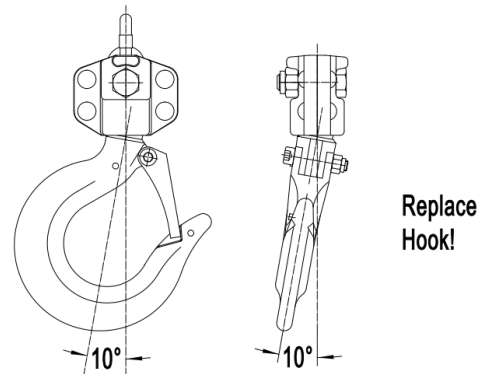

Figure 5
- The vertical angle at the neck of the hook reaches 10° (see Figure 5).